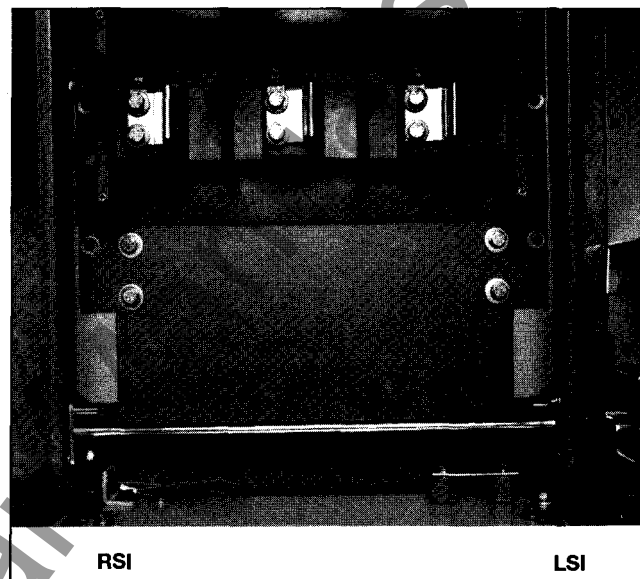

Figure 8. Line Switch Interlock (LSI) and Racking Switch Interlock (RSI)
These contact fingers, along with the mating contact block which is stationary-mounted on the guide plate, make up the Line Switch Interlock (LSI). **Figure 8.**
The Racking Switch Interlock (RSI) is a micro-switch mounted on the rear of the guide plate, **Figure 8**, which functions to prevent operation of the contactor on test power when the fuse carriage is racked in (ON). As the racking handle is moved from OFF to ON the normally closed RSI contact opens and isolates the test source from the control circuit.